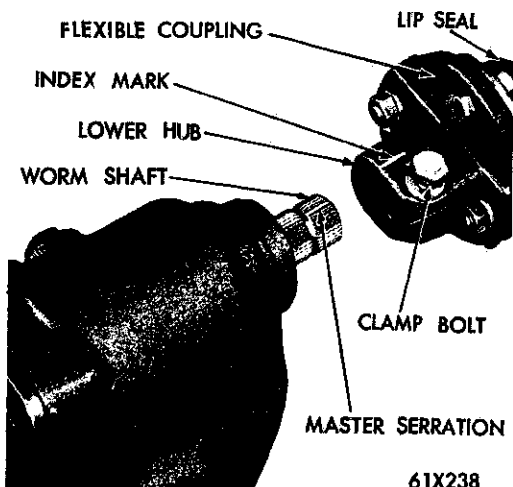

Fig. 15—Aligning the Steering Gear with the Flexible Coupling
(1) Inspect the steering gear from center by rotating the worm shaft from one end of its travel to the other while counting the number of turns. Turn the worm shaft back one half of the full number of turns. This is the exact center of travel.
(2) Locate the master spline in the outer row of serrations on the worm shaft. Mark the master spline.
(3) Enter the steering gear into the engine compartment.
(4) Align the index mark on the outside of the flexible coupling hub with the master spline on the steering worm shaft (Fig. 15).
(5) Slide the coupling on the worm shaft and install the gear housing to frame side rail attaching the bolts and nuts.
(6) Tighten the steering gear housing to frame bolts evenly to 50 foot-pounds torque.